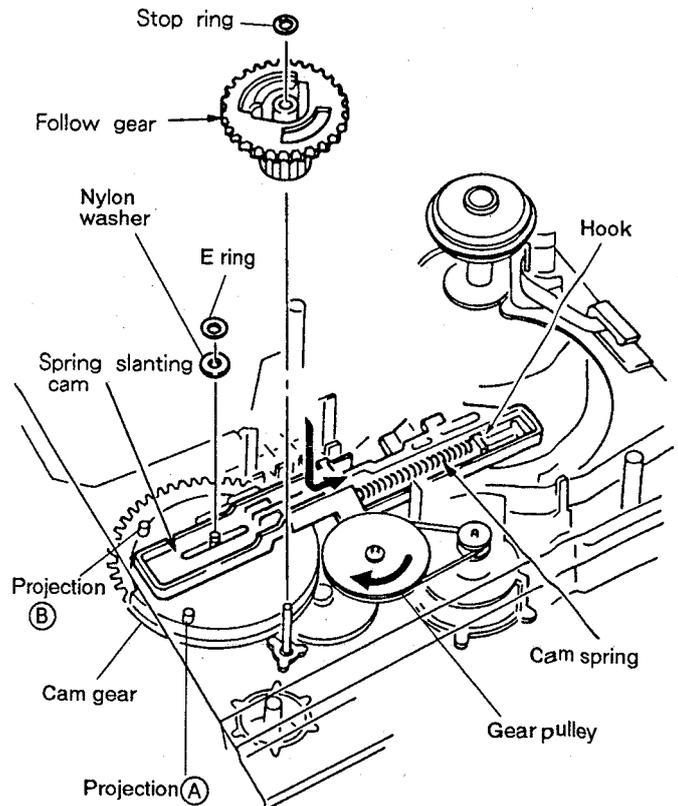

Fig. 13
③ Install a nylon washer and an E ring, and hang the cam spring on the hook. (Fig.13)
Note: The cam gear and spring slanting cam as shown in Fig.13 are positioned when installing the slide cam.
- ③ Install the stop ring. (Fig.13)
- ① Set the position of projection (A) and (B) of the cam gear by turning the gear pulley clockwise by hand as shown in Fig.13.